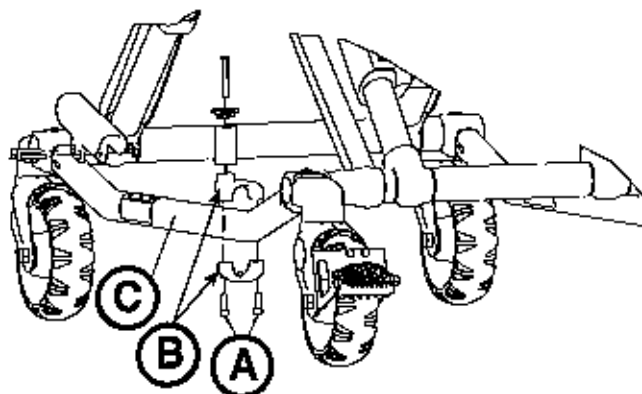

Figure 106
1. Using a T30 Torx driver, remove the two socket head cap screws (A) that hold the brackets (B) to the base frame (C) (Figure 106). Save both screws for reinstallation.